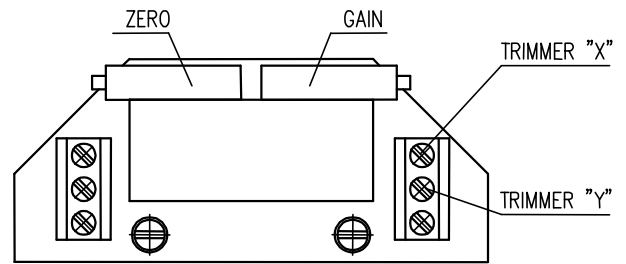

Fig. 6
EPV – 3-wire version (Fig. 6, 6a)
- Adjust the resistive transmitter according to the previous chapter. The resistance is to be metered on the terminals **X-Y**, resp. **0%-100%** (Fig. 6, 6a). The used transmitter resistance is *2000 W* or *100 W*.